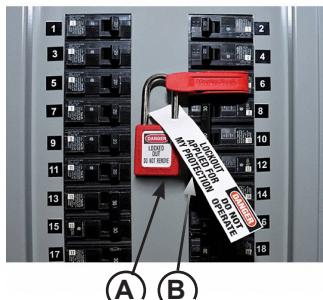

Figure 24
When working with electrical or electronic controls, make sure that the power source has been tagged (A) and locked out (B) according to OSHA regulations* and approved local electrical codes (see Figure 24).